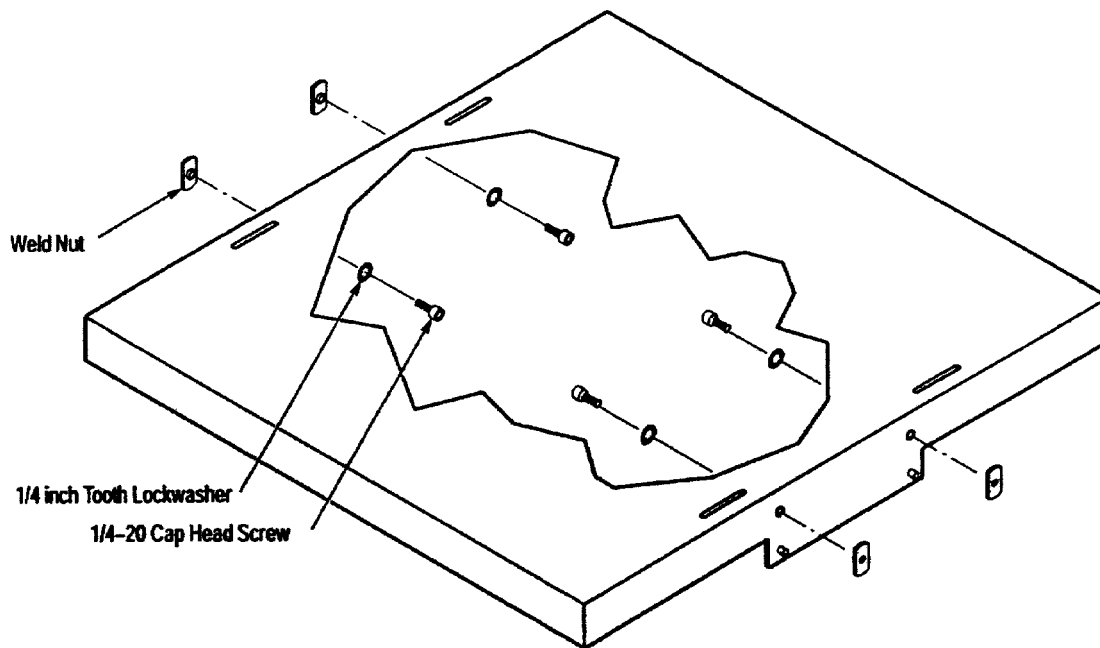

Figure 6: Preparing the Bottom Shelf
1. Prepare the bottom shelf as shown in Figure 6 by installing a cap head screw, a tooth lockwasher, and a weld nut in each of the four side holes of the shelf. Leave each screw assembly loose; do not screw the weld nut onto the cap head screw more than one full turn.